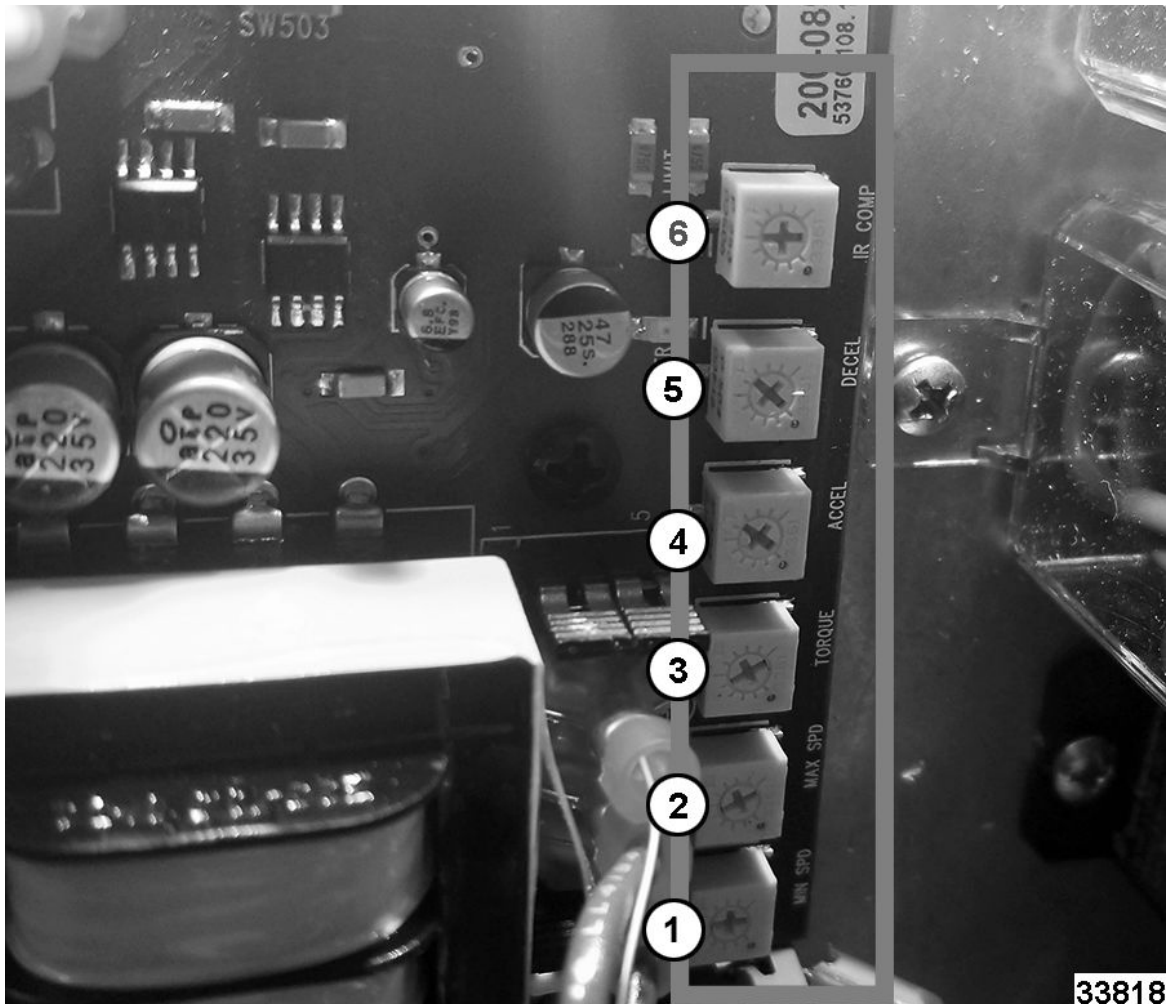

Fig. 67
2. Dial in all settings (Fig. 67).